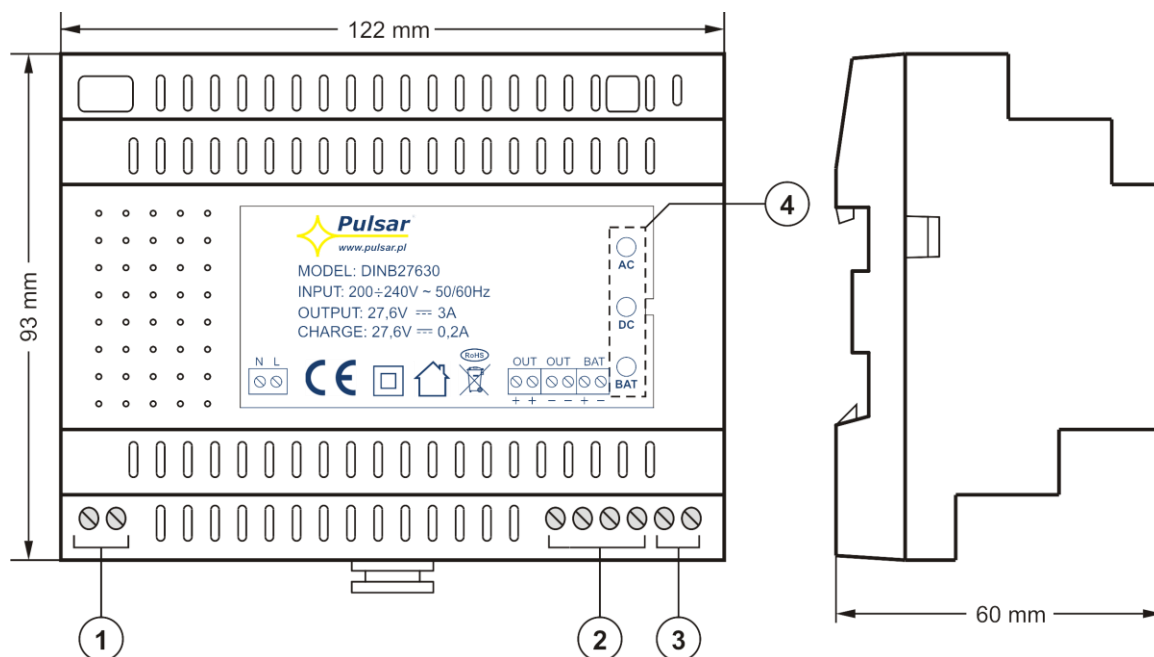

Fig. 2. The view of the PSU module.
1.3 Description of components and power supply connectors (Table 1, Fig.2).